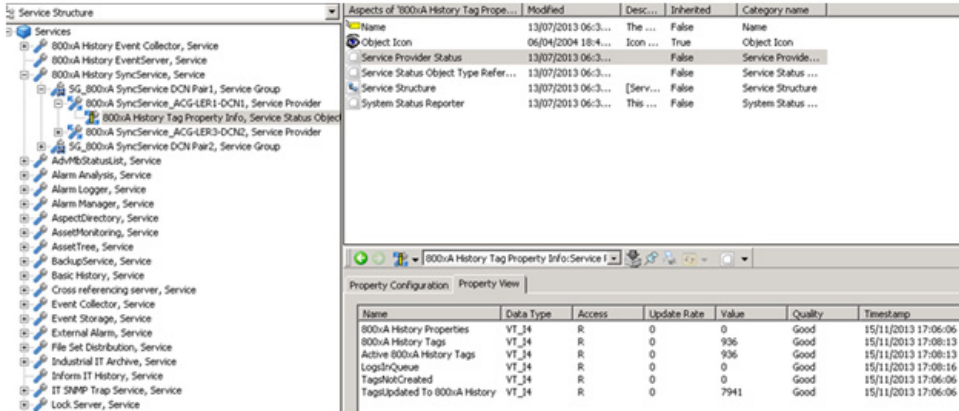

Figure 108. Synchronization Stopped State
- In the event of network disconnection between Aspect Server and Data Collector, the 800xA History Tag Property Info show the status as in Figure 108.
- Based on Figure 108, it is important to understand that the tags are not actually deleted, instead, the Sync Service Synchronization is stopped.